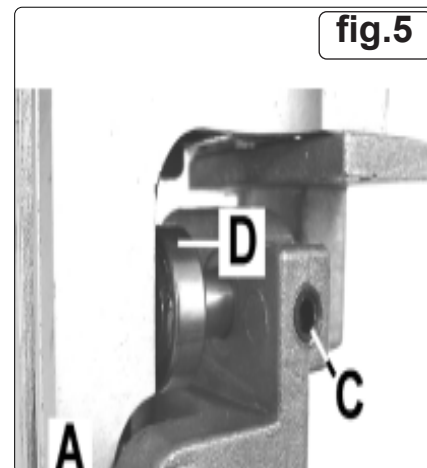

fig.5
6.10.2. Loosen, but do not remove, the two bolts (fig.5)that hold the motor assembly to the housing.